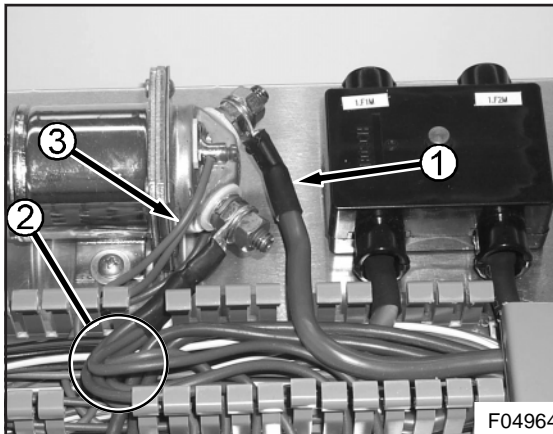

Figure 4 : new style relay installation
6. On the same spot where the old relay used to be, drill two new 1,5 mm / $\frac{1}{16}$ inch holes in the switchboard and attach the replacement relay with the sheet metal screws and the plain washers as shown in Figure 4.
7. Strip back the wires. With a crimping tool, fit a new ring terminal (8mm / $\frac{21}{64}$ inch) to the bundle of 14AWG red wires and to the 4AWG red wire respectively. Insulate the ring terminal bodies with shrinking sleeve. Connect these wires to the relay stud terminals (see Figures 4 and 5).
8. Connect the two green wires from the multiwire connector to terminal # 50 of the new relay. Connect the brown wire to terminal # 31 (see Figures 4 and 5).